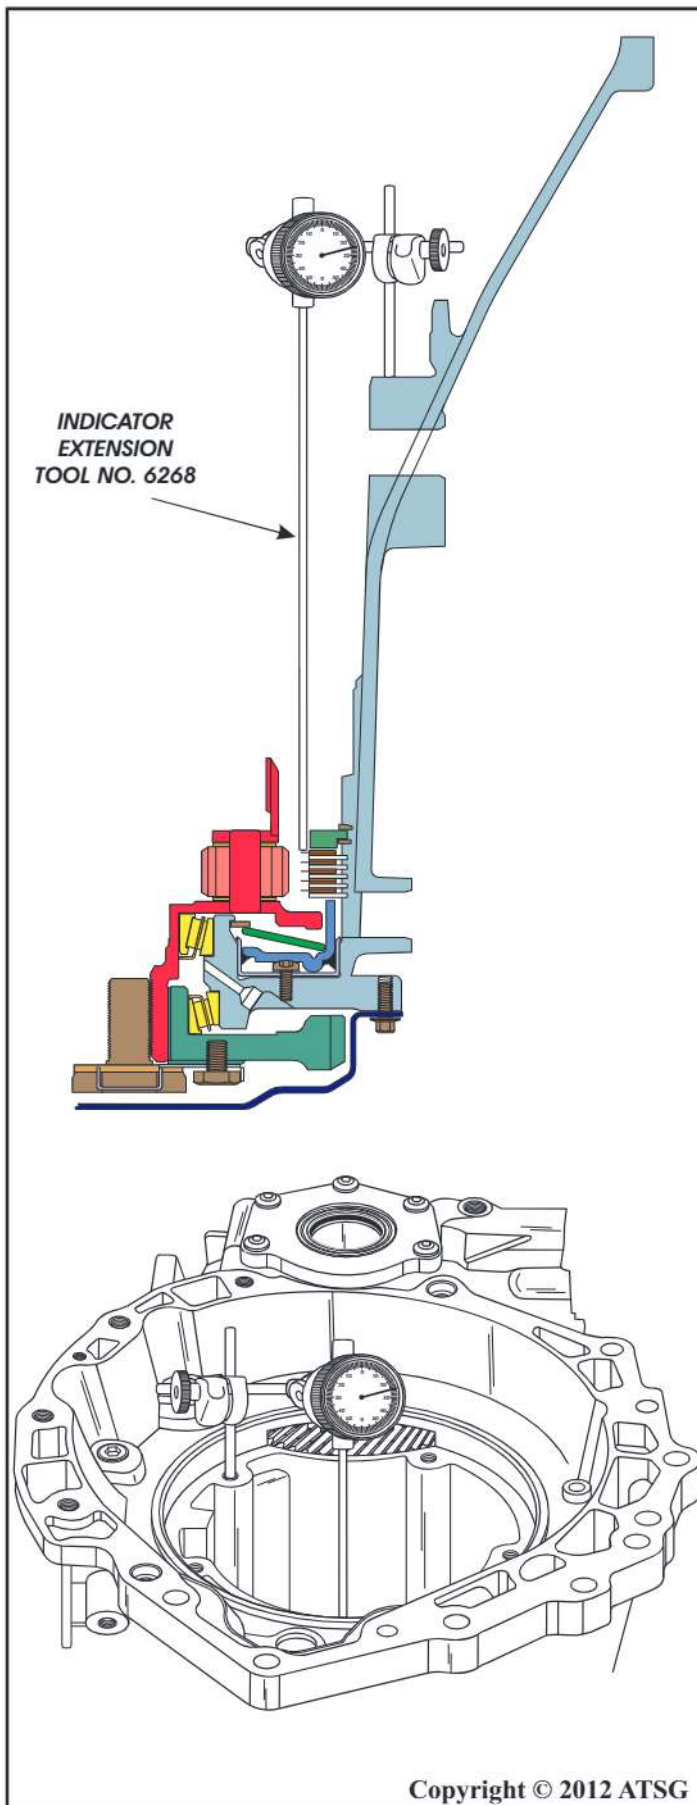

Figure 246
34. Mount a dial indicator to the case and zero the indicator against tooth of the low/reverse friction plate, as shown in Figure 246.